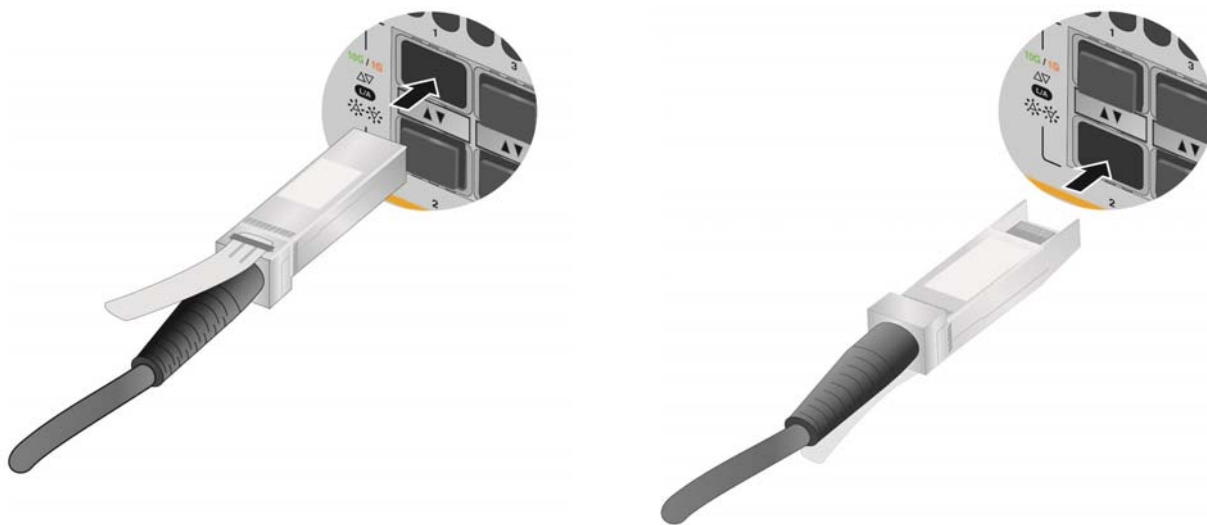

Figure 69. Installing AT-SP10TW Cables
3. To install the transceiver in a slot in the top row, position the transceiver with the Allied Telesis label facing up. To install the transceiver in a slot in the bottom row, position the transceiver with the label facing down. Refer to Figure 69 on page 116.